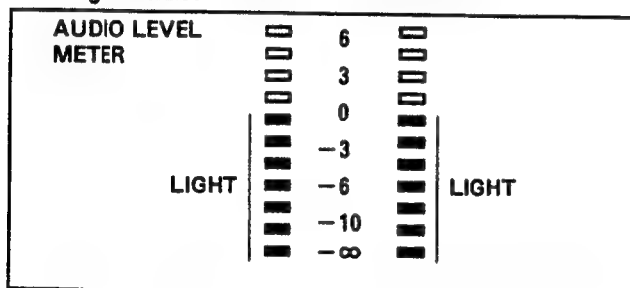

Figure E23
4. Adjust VR4505 (CH1) and VR4506 (CH2) so that the Audio Level Meter shows 0dB as shown in Figure E23.